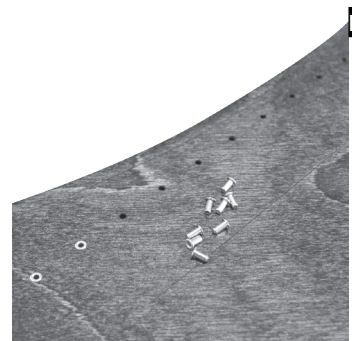

FIG. 5
- ___12. Push the small brass eyelets into the other holes (from the front side of the instrument). They will prevent the strings from cutting into the wood. (fig. 5)